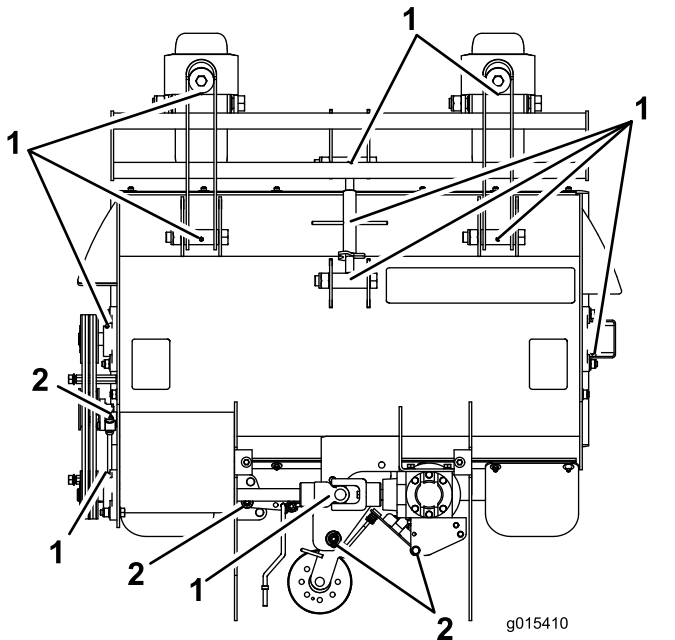

Figure 5
6. Every 400 operating hours, disassemble the points shown in Figure 5 and apply anti-seize grease.